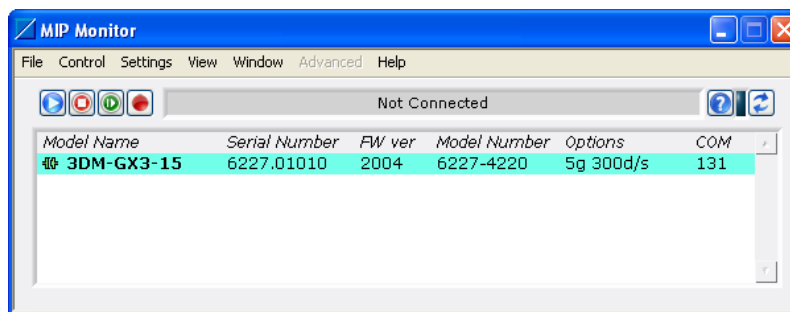

Figure 1 – Main window
- The software will automatically search for the 3DM-GX3[®] and display it in the Device pane. The serial number, firmware version, model number, options and comm port will be displayed as shown in *Figure 1*.